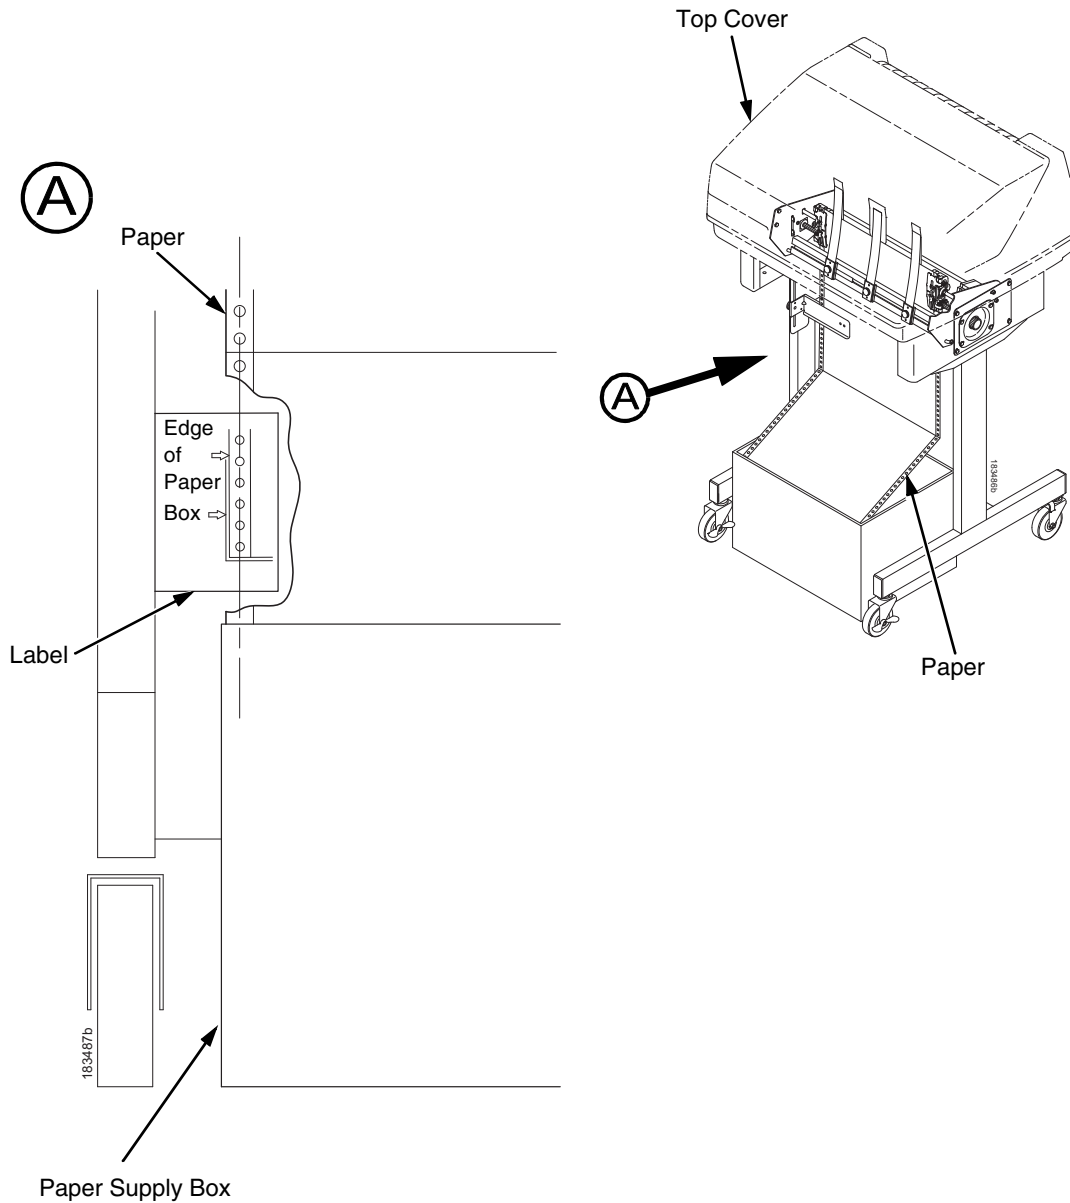

Figure 107. Aligning and Loading Paper onto the Printer
1. Align the paper supply box with the label on the bottom left side of the modesty panel. (See Figure 107.)